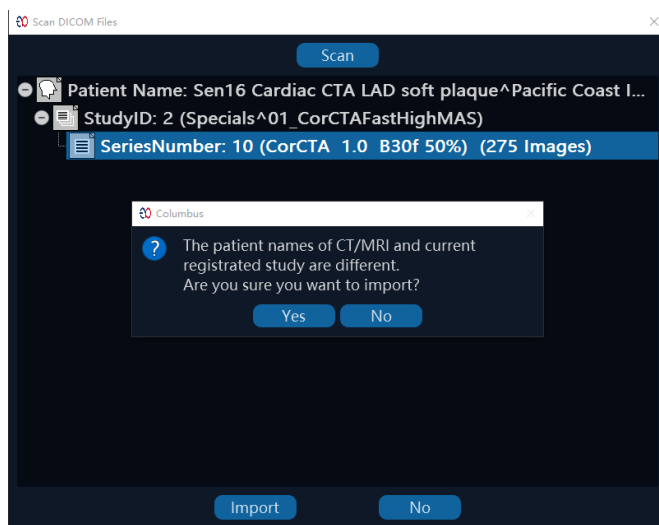

Figure 9-4 DICOM Prompt Information For Missing Data Parts Or Inconsistent Slice Intervals
2) If part of the DICOM data you use is missing or the slice intervals are not consistent, a prompt appears and the DICOM data cannot be imported into the system (Figure 9-4).